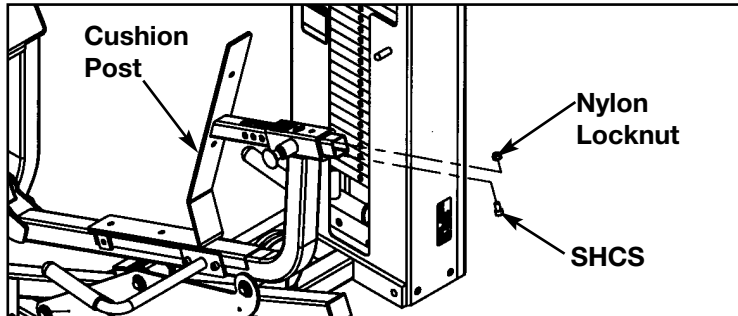

Figure 26
- C.** Remove the SHCS and nylon locknut securing the cushion post. See Figure 26.